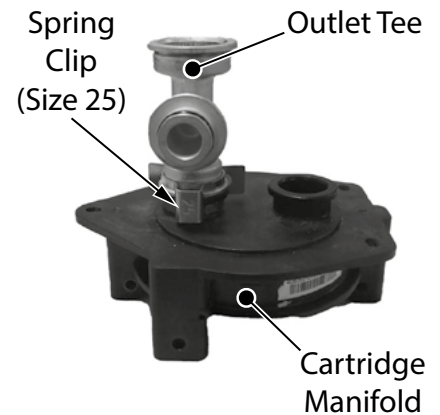

Figure 7 - Remove spring clip from outlet tee and cartridge manifold
- 17 Remove the small spring clip (size 25) securing outlet tee to cartridge manifold as shown in Figure 7. Place spring clip aside in a safe place for reinstallation. Separate outlet tee from cartridge manifold.